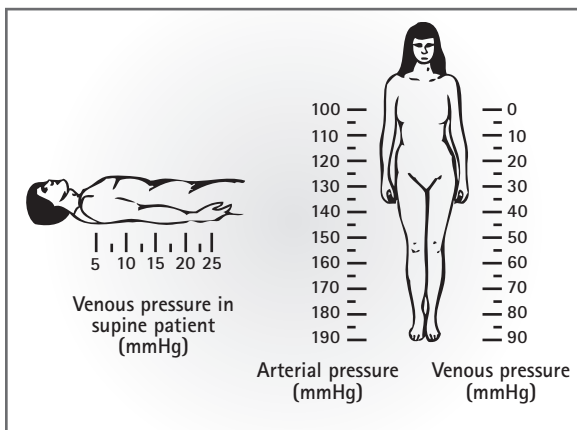

Figure 1: Pressures and the Human Body
2. Current PSI of the patient? (*see Figure 1*)